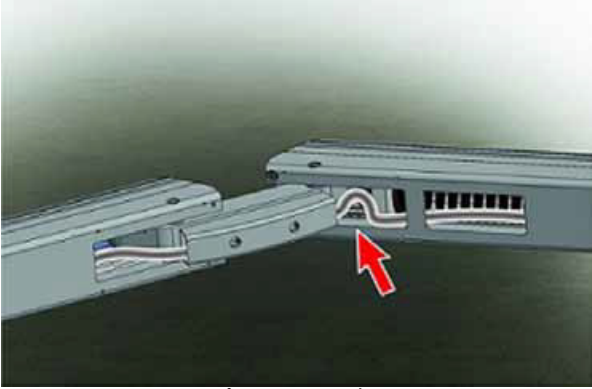

Figure 106
- Keeping the vertical arm in vertical position and horizontal arm in horizontal position, route the cable inside the horizontal arm such a way that the cable is pushed 20mm (approx) inside the outer cover as shown in the Figure 106. Make sure that the cables are inserted in between the outer cover and the inner plastic sheet (not visible in picture).